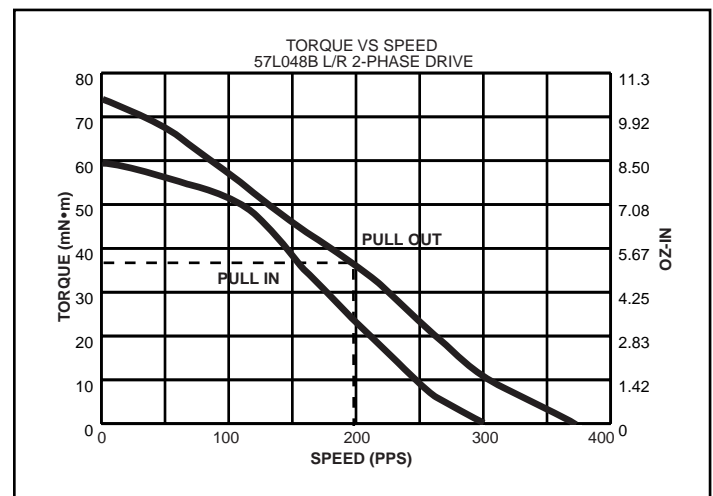

Figure 9: Torque/Speed — Friction Plus Inertia. (Thomson Airpax 57L048B L/R Stepper).
3. Refer to the *PULL OUT* curve Fig. 9, at speed of 200 pulses per second, where the available torque is 35 mN·m. Therefore, the 57L048B motor can be selected with a safety factor.